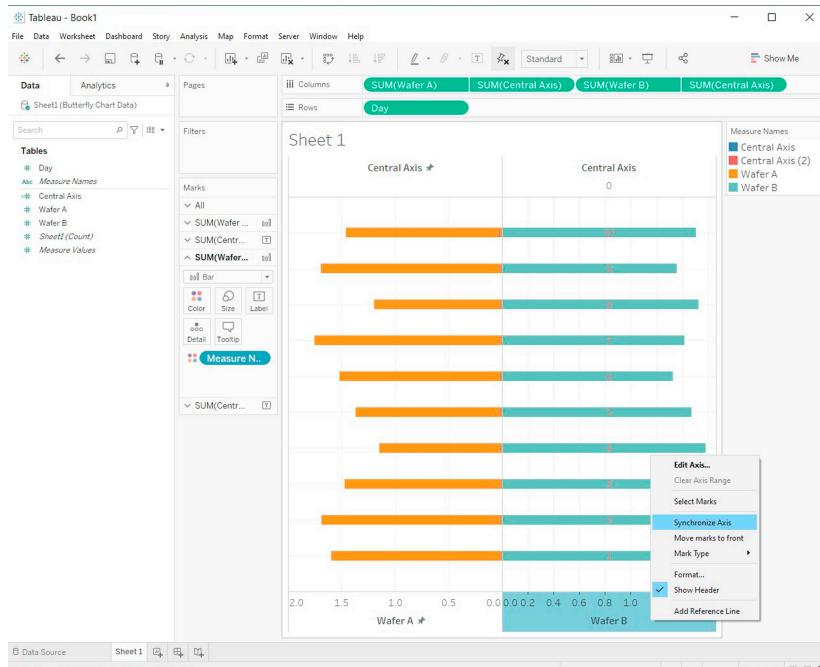

FIGURE 2.40 Step 18 in Section 2.3.
**Step 18:** Right-click around “Wafer B” then check “Synchronize Axis” of “Wafer B” variable (Figure 2.40).